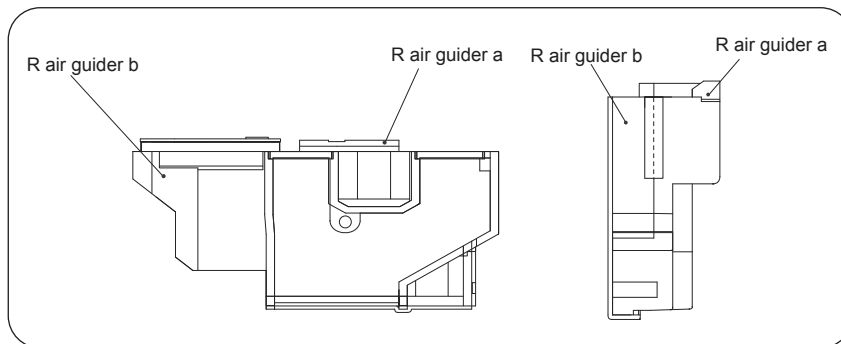

Figure A-7
2) Insert R air guider b to R air guider a. (Figure A-7)